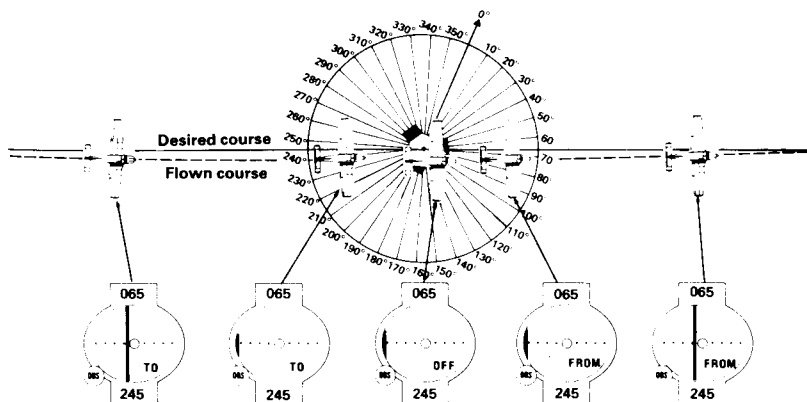

Figure 14. VOR Passage
1. Select a VOR station that you want to fly past (TO on the selected radial and FROM on a radial of about 180 degrees difference). Tune it in, and fly TO it. Refer to Fig. 14.